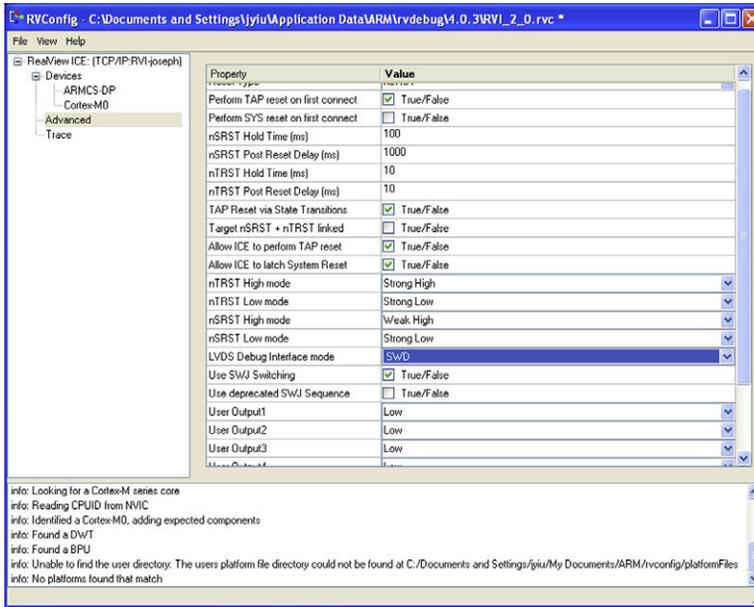

Figure 19.14: Serial wire debug option in RVI advance settings.
- In the RVConfig window, select “Advanced” settings; you will then find the serial wire debug option (as shown in Figure 19.14).
- Select SWD for LVDS Debug Interface mode (Figure 19.14). The use of the SWJ switching sequence is not essential for most Cortex-M0 devices. However, it is essential for most Cortex-M3 devices because the debug access port in most of the Cortex-M3 devices supports both JTAG and serial wire debug protocol, and JTAG protocol is used by default.